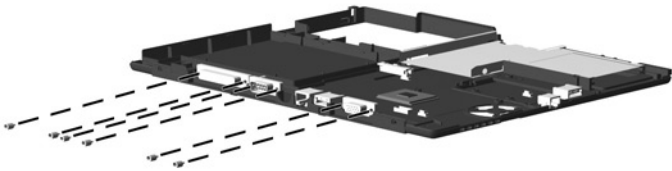

Figure 5-19. Removing the System Board Screwlocks
3. Remove the six 5.0-mm screwlocks from the rear panel of the computer (Figure 5-19).